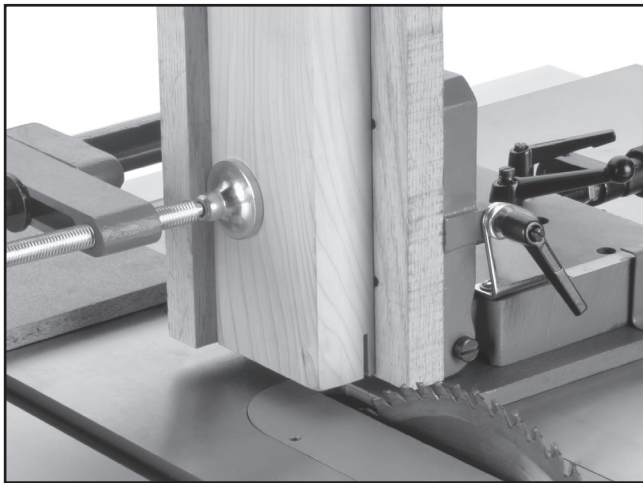

Figure 22. First structural cheek cut.
3. Grasp the jig firmly and slowly slide the jig toward the saw blade and make the first structural-cheek cut (see **Figure 22**). **DO NOT** slide the jig quickly toward the saw blade or the jig can raise up and away from the table.